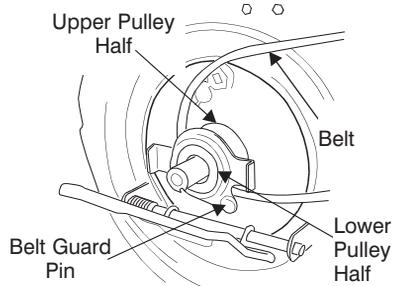

Figure 26
19. Place belt between the two pulley halves on the crankshaft. Make sure to route the belt inside the belt guard pin. See Figure 26.
**IMPORTANT: For proper assembly, it is essential to keep the assembly positioned as shown in Figure 26.**